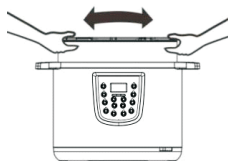
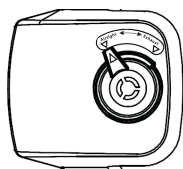

Figure 13
Figure 14
2. Be certain the inner receptacle, where the heating plate (14) is located, is clean and dry before inserting the Inner Pot (6) into the pressure cooker and adjust the pot left and right to ensure optimal contact between the Inner Pot and the heating plate (14) (Figure 13)
4. Adjust the Pressure Limiting Valve (3) to the "Airtight" position and ensure that the Float Valve (4) sinks.
5. When adjusting the Pressure Limiting Valve (3) to either the "Airtight" or the "Exhaust" positions, line up the marking on the Pressure
Limiting Valve (3) with the arrow on the Handle (1) as shown in Figure 14.
NOTE: You cannot adjust the Pressure Limiting Valve to the "Exhaust" position immediately after cooking, when using functions such as porridge or, soup. It is IMPORTANT that the Float Valve (5) sinks before any attempts are made to open the lid. (Figure 14)